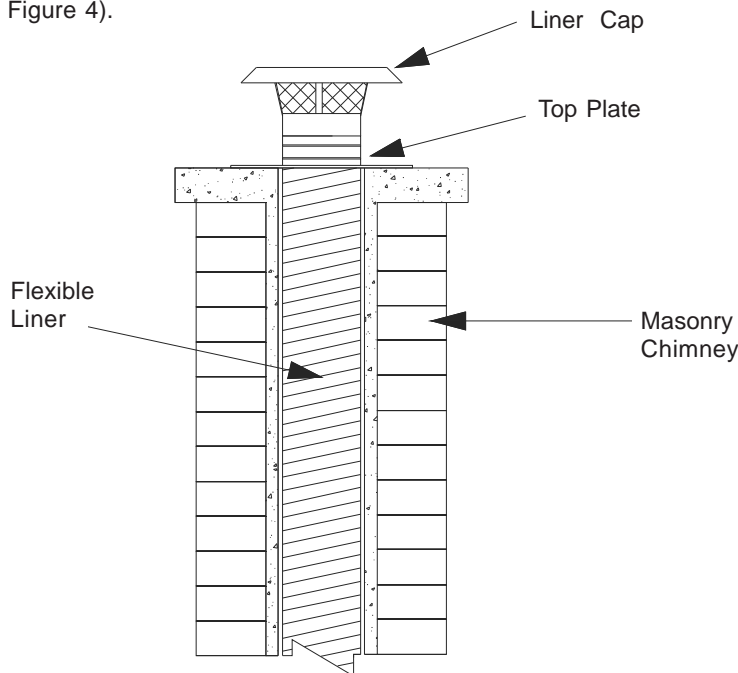

FIGURE 4 - Stainless Steel Flexible Liner with Top Plate
- The Top Kit (Top Plate and Liner Cap) is used to bear the total weight of the liner system at the top of the masonry chimney (see Figure 4).